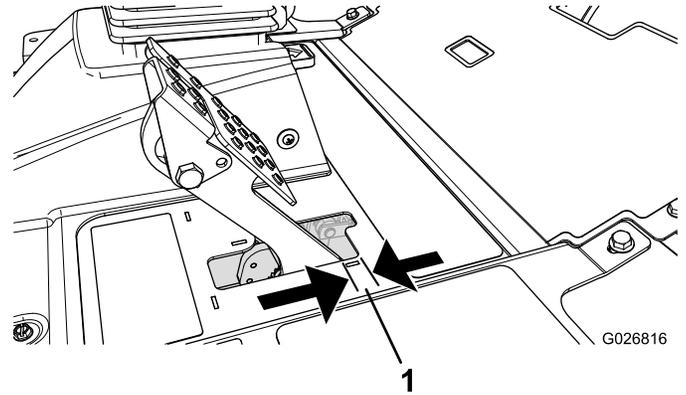

Figure 63
Adjust the brakes when there is more than 2.5 cm (1 inch) of free travel (Figure 63) of the brake pedal, or when more holding force is required. Free travel is the distance the brake pedal moves before you feel braking resistance.
2. Tighten the rear nut to move the cable backward until brake pedals have 0.63 to 1.27 cm (1/4 to 1/2 inch) of free travel (Figure 63), before the wheels lock up.